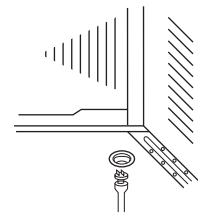

Fig.3
5. Insert the drain connecting pipe (with a seal circle) attached to the air conditioner into the vertical drain hole on the bottom (see Fig. 3).